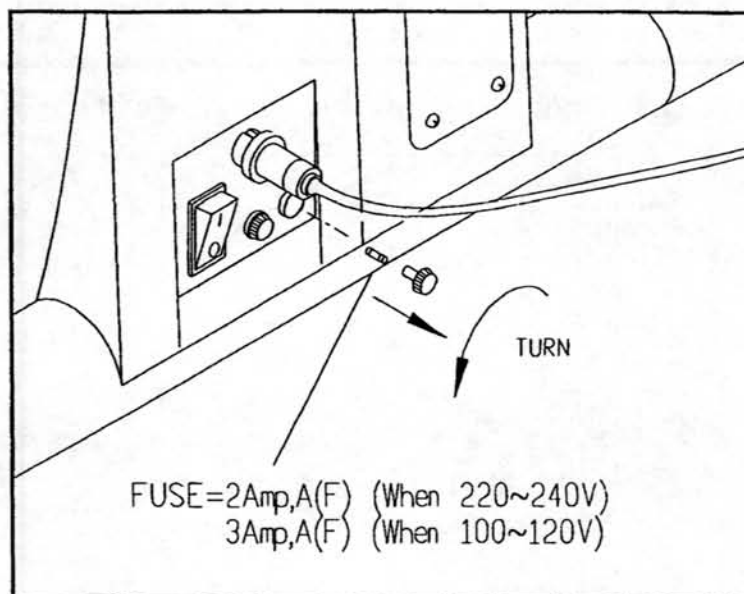

Fig.19-1
1. Push in the FUSE HOLDER and then turn them counterclockwise and the FUSE HOLDER with FUSE will protrude (see fig. 19-1).